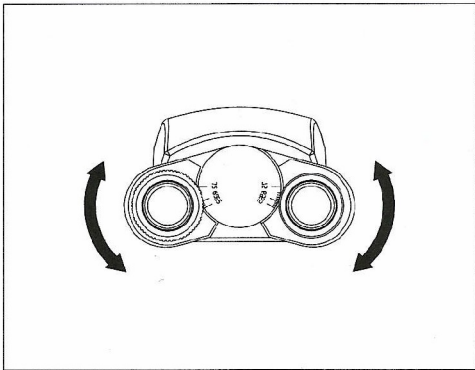

Fig.24
3.3.5 Adjusting the Interpupillar Distance (Fig.24)